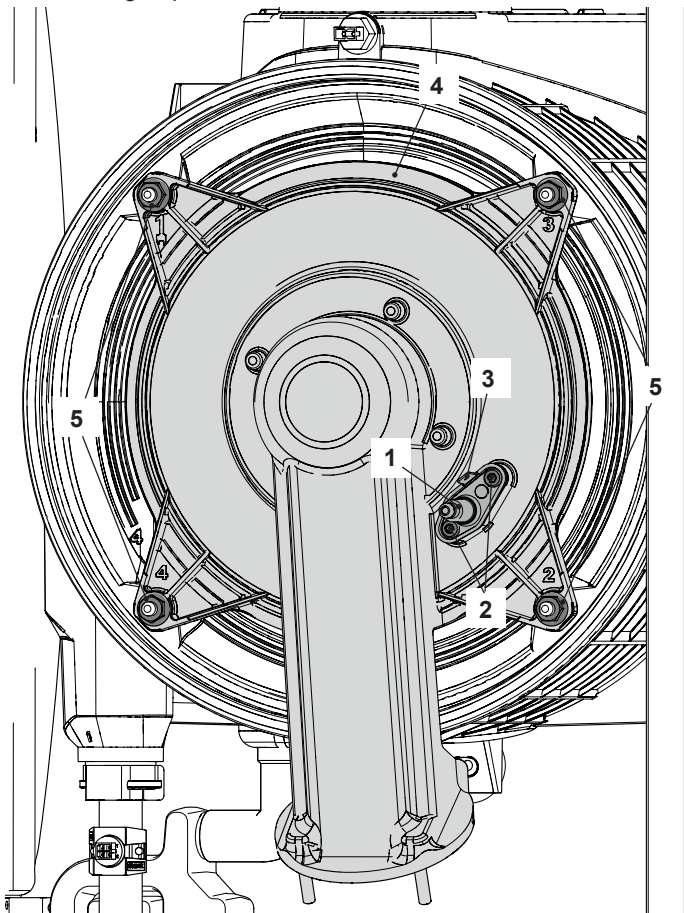

Figure 17.1
- 2 Disconnect the electrode connector "1" and the earth wire "3" (Figure 17.1).
- 3 Unscrew the nuts "5" (Figure 17.1) and remove the cover of the combustion chamber.